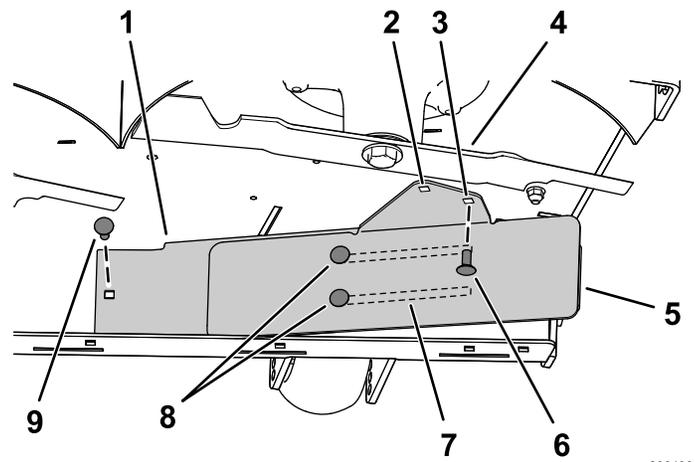

Figure 10
- Install the left side of the baffle using a carriage bolt (5/16 x 3/4 inch) and flange nut (5/16 inch) as shown in Figure 10.
- Loosen the 2 carriage bolts (5/16 x 3/4 inch) in the baffle slots, and slide the baffle until the hole aligns with the hole in the mower deck (Figure 10).
- Install baffle as shown in Figure 10.
Important: Ensure that you use the correct hole for the baffle; refer to Figure 10.
- Tighten the 2 carriage bolts (5/16 x 3/4 inch) in the baffle slots (Figure 10).